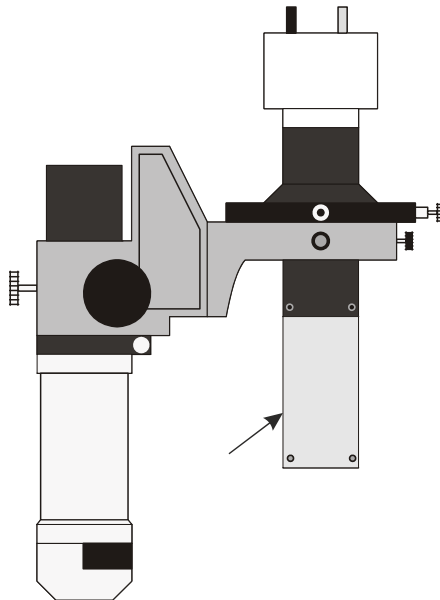

Fig. 1-7. Mounting the telescope.
1. Insert the telescope (see Fig. 1-3) into the lower end of the tube and secure it with three screws (Fig. 1-7).